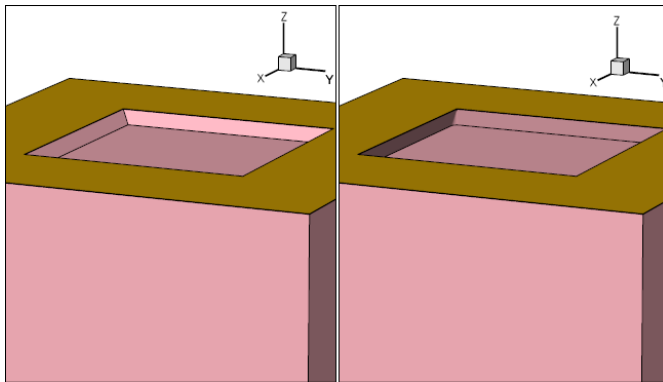

Figure 55 Three-dimensional trapezoidal etching: (*left*) angle=45 thickness=0.3 and (*right*) angle=110 thickness=0.44
- Case 1: A thickness (or rate and time) and an angle (optional) are specified. If angle is not specified, it defaults to 90° (vertical). In contrast with case 2, angle allows any value between 0° and 180° . Figure 55 on page 226 shows examples of both cases.